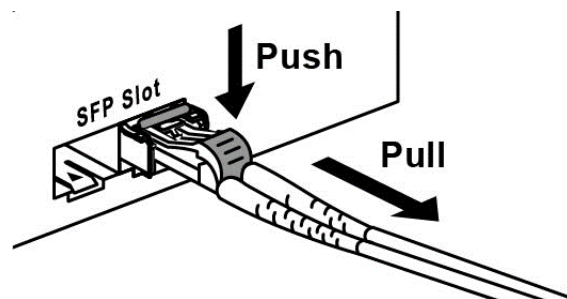

Figure 2.13: Remove LC Connector
Step 1. Press the upper side of the LC connector from the transceiver and pull it out to release as shown below in Figure 2.13